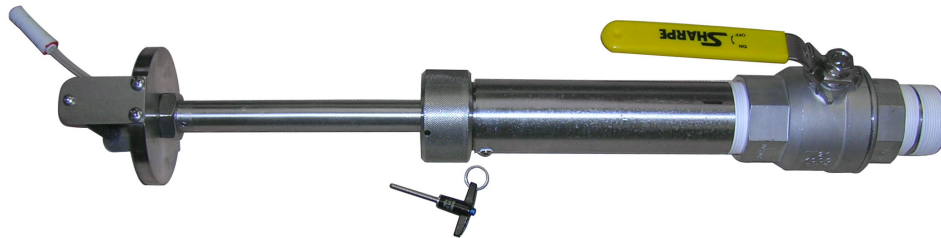

Figure 2a; Sensor in Extracted Position
- 2.1. The sensor element surface must 90° to the flow of sample to $\pm 10^\circ$. The direction of the line flow is indicated by the handle. Insert Sensor Assembly into the Ball Valve Assembly until the sensor head comes in contact with the ball. See figure 2a.